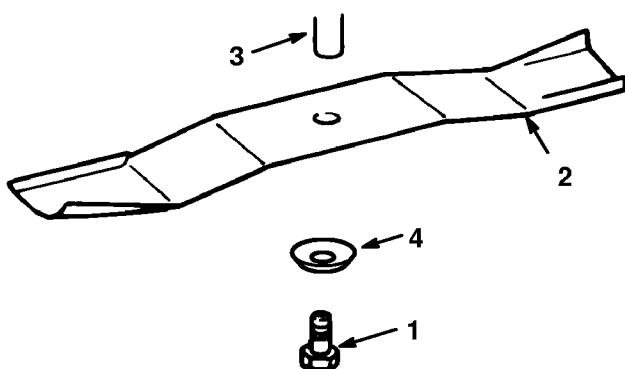

Figure 35
3. Remove the bolt (5/8" wrench), curved washer and blade (Fig. 35). A block of wood may be wedged between the blade and the mower to lock the blade when you are removing the bolt.
1. Install the blade, blade retainer, curved washer (cupped side toward blade), and the blade bolt (Fig. 35).